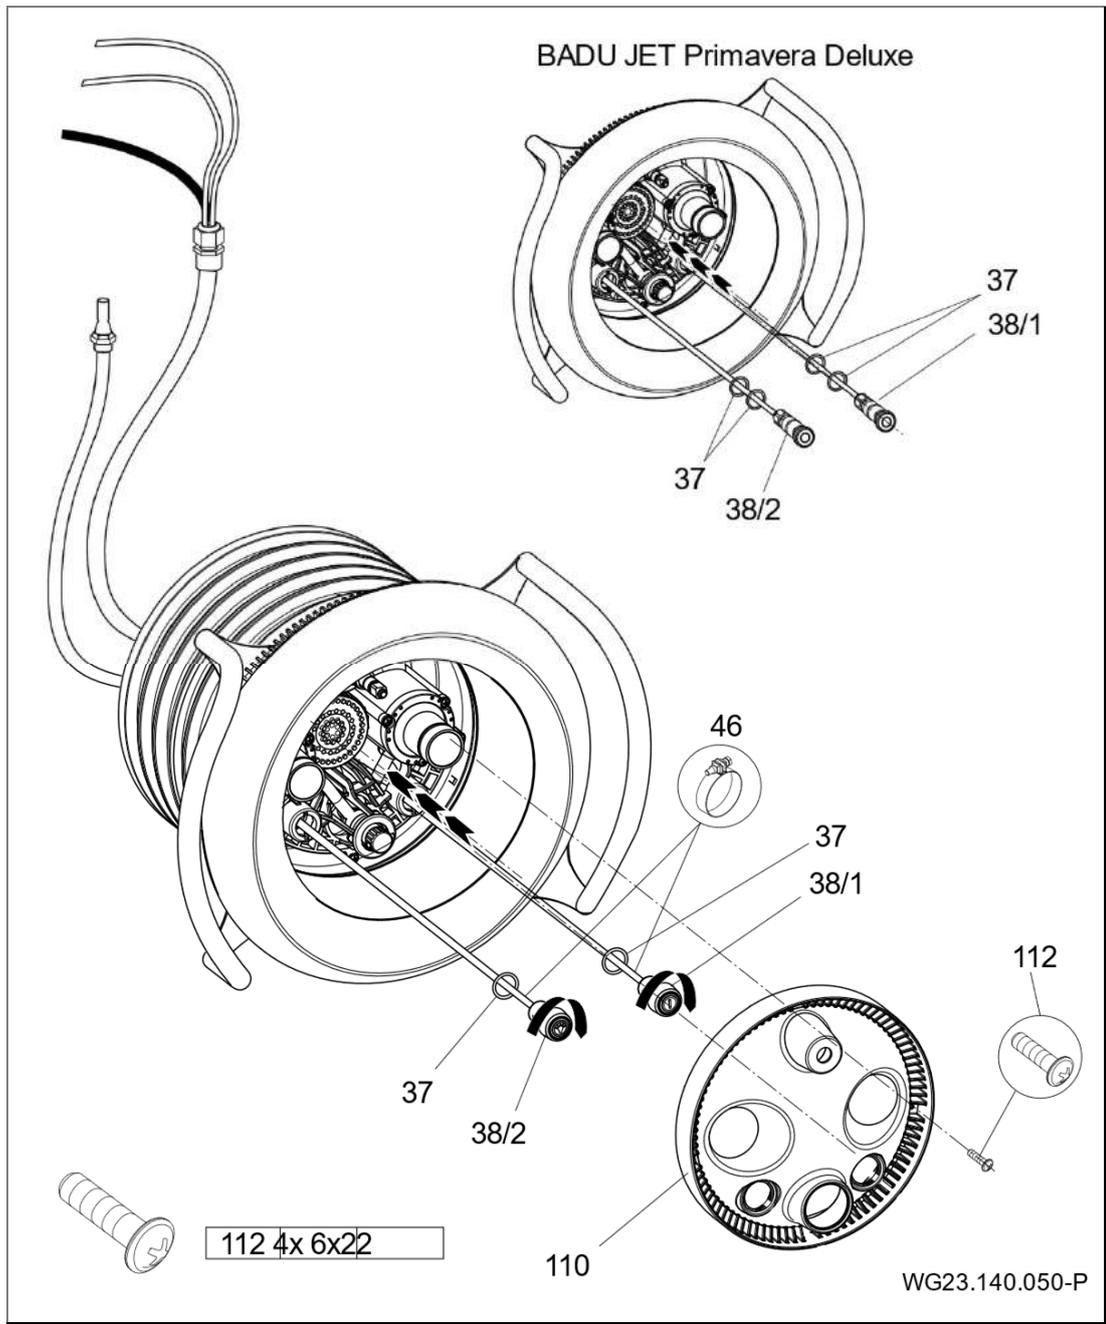

Fig. 19
8. Primavera: Push an O-ring (37) onto each pneumatic button (38/1; 38/2). Fasten the pneumatic hoses to the appropriate buttons with hose clips (46). Insert both pneumatic buttons into the nozzle housing and lock by turning clockwise. (Fig. 19)
- 11. Align the light cover (110) central to the nozzle housing (102.1) and fasten with four tapping screws (112). (Fig. 19)